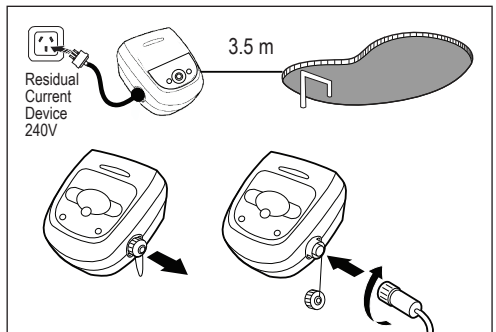

Figure 3. Connect/Disconnect the Floating Cable
2. Grip the notched end of the floating power cable, insert into the control unit, and turn clockwise to tighten (*Figure 3*).